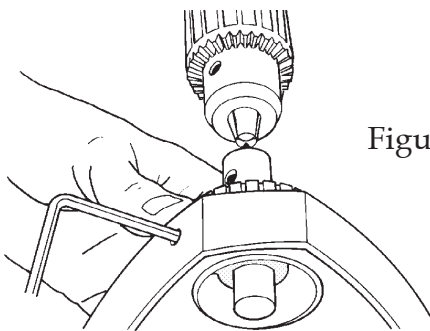

Figure B-117
- To adjust the cup center point **horizontally**, loosen the set screw that locks the adjustable center, as seen in Figure B-117. Rotate the adjustable center as needed to line up the cup center with the drill chuck, then tighten the set screw.